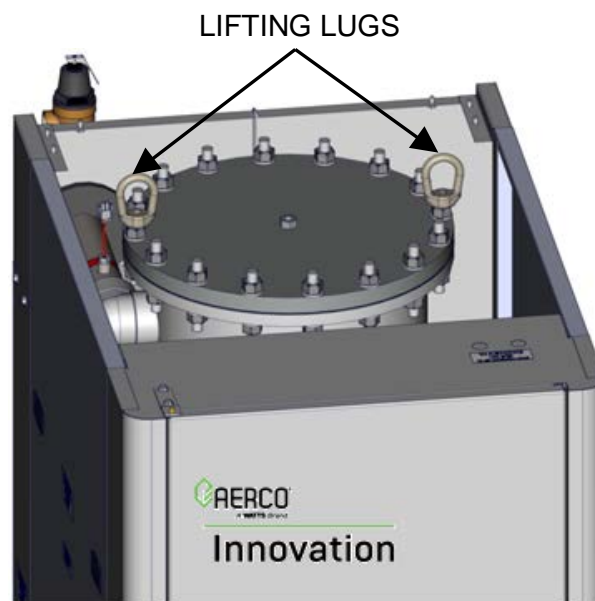

Figure 2-2. Partial Top View Showing Installed Lifting Lugs
The unit must be installed on a **4 to 6 inch (10.2 to 15.2 cm)** housekeeping pad to ensure proper condensate drainage. Two lifting lugs are provided with the unit and are wire-tied to the top of the heat exchanger. The top sheet metal cover of the unit must first be removed and the lifting lugs must be installed as shown in Figure 2-2. **USE THESE TWO LUGS TO LIFT AND MOVE THE UNIT.** Remove the top panel from the unit to provide access to the lifting lugs. Remove the four (4) lag screws securing the unit to the shipping skid. Lift the unit off the shipping skid and position it on the 4 to 6 inch (10.2 to 15.2 cm) housekeeping concrete pad (required) in the desired location.